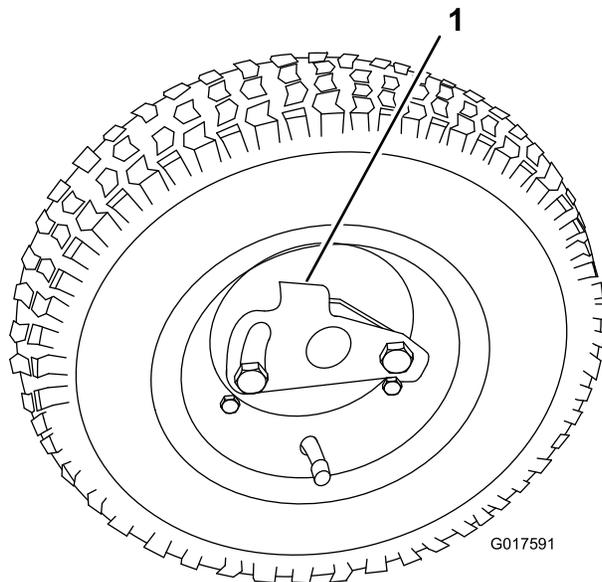

Figure 12
2. Press the wheel locking clip toward the center of wheel and slide the wheel onto the hex shaft (Figure 12).